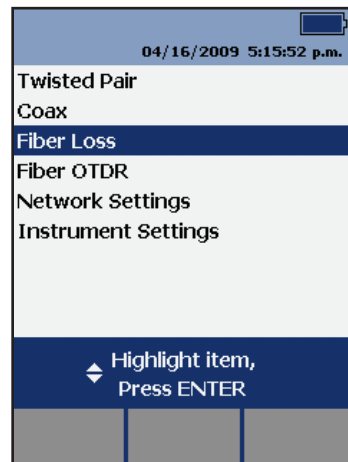
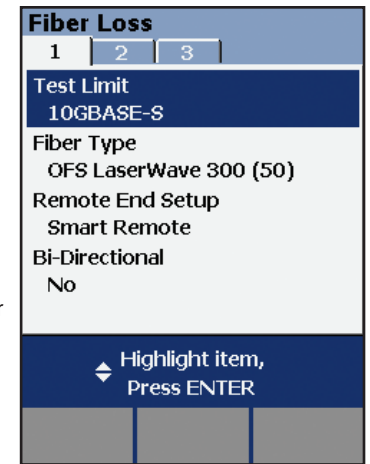

Figure 2
Figure 3
- Select Fiber Loss from the Setup screen as shown in **figure 2**. Under this setup screen, choose from a menu of standards to select the correct limits. Select the Test Limit option as shown in **figure 3**. Note that the selected fiber type limits the test limit choices. Popular fiber types are also included in the instrument menu.
As **figure 3** shows, the same setup screen allows you to select the “Remote End Setup”. When using the DTX Smart Remote equipped with the fiber test module, select “Smart Remote” as we have done in this example. In this mode, the tester automatically measures the length of the link-under-test.
**Bidirectional testing** – If you want to test each fiber in both directions, don't forget to select that option in the setup screen (see **Figure 3**). When the tester prompts you to make the connection to test in the second direction, remember to switch the TRC at the link end. DO NOT remove the TRCs from the tester connections.